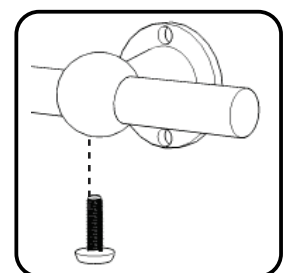

Figure 9
Attach Foot Rest (Q) to Foot Rest Supports (P) with Head Cap Bolts (short), leaving same amount of Foot Rest (Q) protruding on outside of outer Foot Rest Supports (P). (See Figure 9)